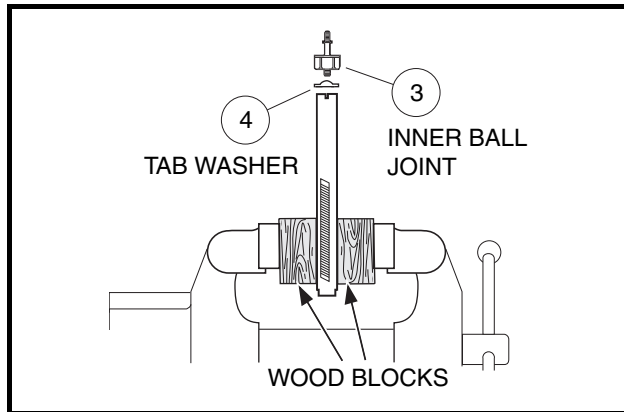

Figure 7-12 Secure Rack in Vise
13. If the inner ball joint (3) is excessively worn, remove the ball joint and tab washer (4) from the rack (Figure 7-12, Page 7-11).
- 13.1. Secure the rack in a vise using wood blocks between the rack and the jaws of the vise to protect the rack from damage (Figure 7-12, Page 7-11).
1. Install a new tab washer (4) and an inner ball joint (3) (Figure 7-12, Page 7-11). Install the ball joint onto the rack by securing the rack in a vise using wood blocks between the rack and the jaws of the vise to protect the rack from damage. Tighten the ball joint to 60 ft-lb (81 N·m).
2. Bend the edges of the tab washer (4) up against the ball joint (3) (Figure 7-12, Page 7-11).